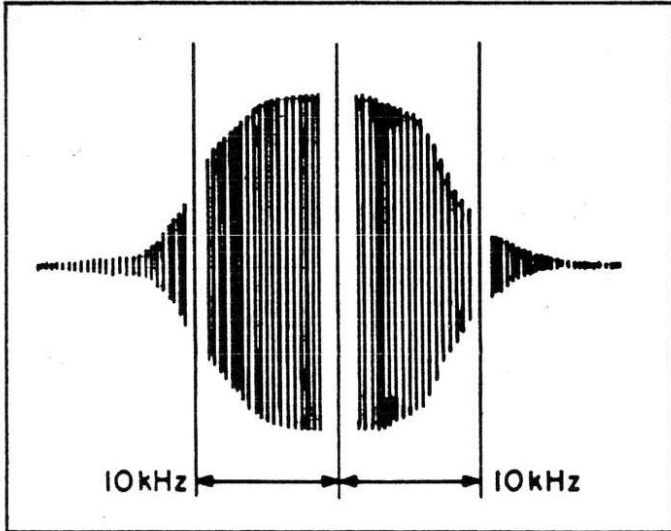

Figure 14.
(4) Align top and bottom cores of Z503 (on AM RF board) for maximum gain and symmetry (see Figure 14). Reconnect